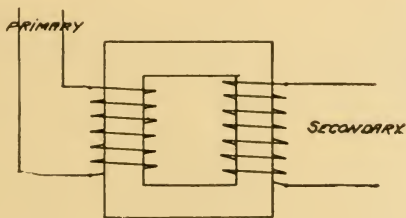

FIGURE 79
In Fig. 79 we see a diagrammatic representation of a transformer in crude form. (17) In actual practice the coils are wound very differently, usually one inside the other and very close together in order to locate the secondary in the strongest part of the magnetic field induced by the primary coil, which will be close to the primary coil itself. Remember, power is not taken directly from the primary in the form of E.M.F., but by magnetic action in the form of a separately induced E.M.F., the formation of which requires that power exactly equal to it, measured in watts, be taken from the primary current. We dwell upon this because this is the germinal point that must be clearly understood before transformer action can be grasped.